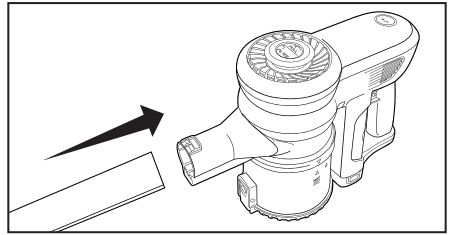

Fig. 1
1. Connect the male end of the metal wand to the vacuum body (Fig. 1).